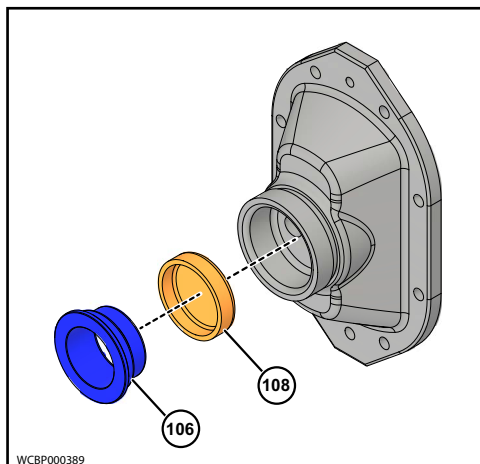

Figure 90 - Install Diaphragm and Bushing
1. Install the Rubber Diaphragm (108) into the cover port, as shown in Figure 90.
2. Install the new O-ring (109) onto the Diaphragm Bushing (106) for the sizes 180-220-224-U2 only.
3. Install the Diaphragm Bushing (106) into the cover port, as shown in Figure 90.